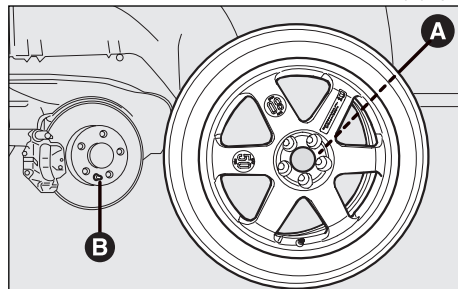

fig. 15
– fit the compact spare wheel by matching the one of holes (**A-fig. 15**) with the corresponding pin (**B**);
- lower the car and remove the jack; then, tighten the bolts in the sequence shown previously for the compact spare wheel (**fig. 15**).